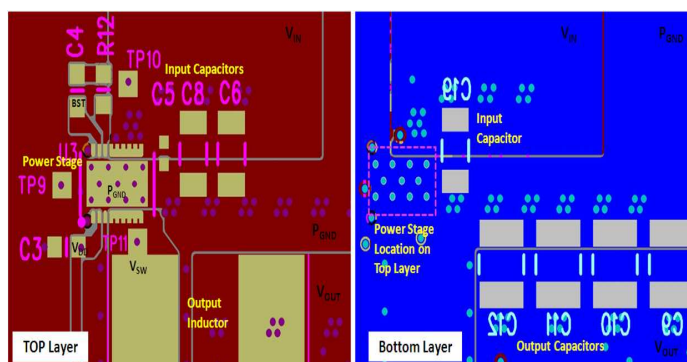

Figure 16. Recommended PCB Layout (Top Down View)
- The placement of the input capacitors relative to V_{IN} and P_{GND} pins of CSD97396Q4M device should have the highest priority during the component placement routine. It is critical to minimize these node lengths. As such, ceramic input capacitors need to be placed as close as possible to the V_{IN} and P_{GND} pins (see Figure 16). The example in Figure 16 uses 1 \times 1 nF 0402 25 V and 3 \times 10 μ F 1206 25 V ceramic capacitors (TDK Part # C3216X5R1C106KT or equivalent). Notice there are ceramic capacitors on both sides of the board with an appropriate amount of vias interconnecting both layers. In terms of priority of placement next to the Power Stage C5, C8 and C6, C19 should follow in order.
- Use the smallest drill size allowed in your design. The example in Figure 16 uses vias with a 10 mil drill hole and a 16 mil capture pad.